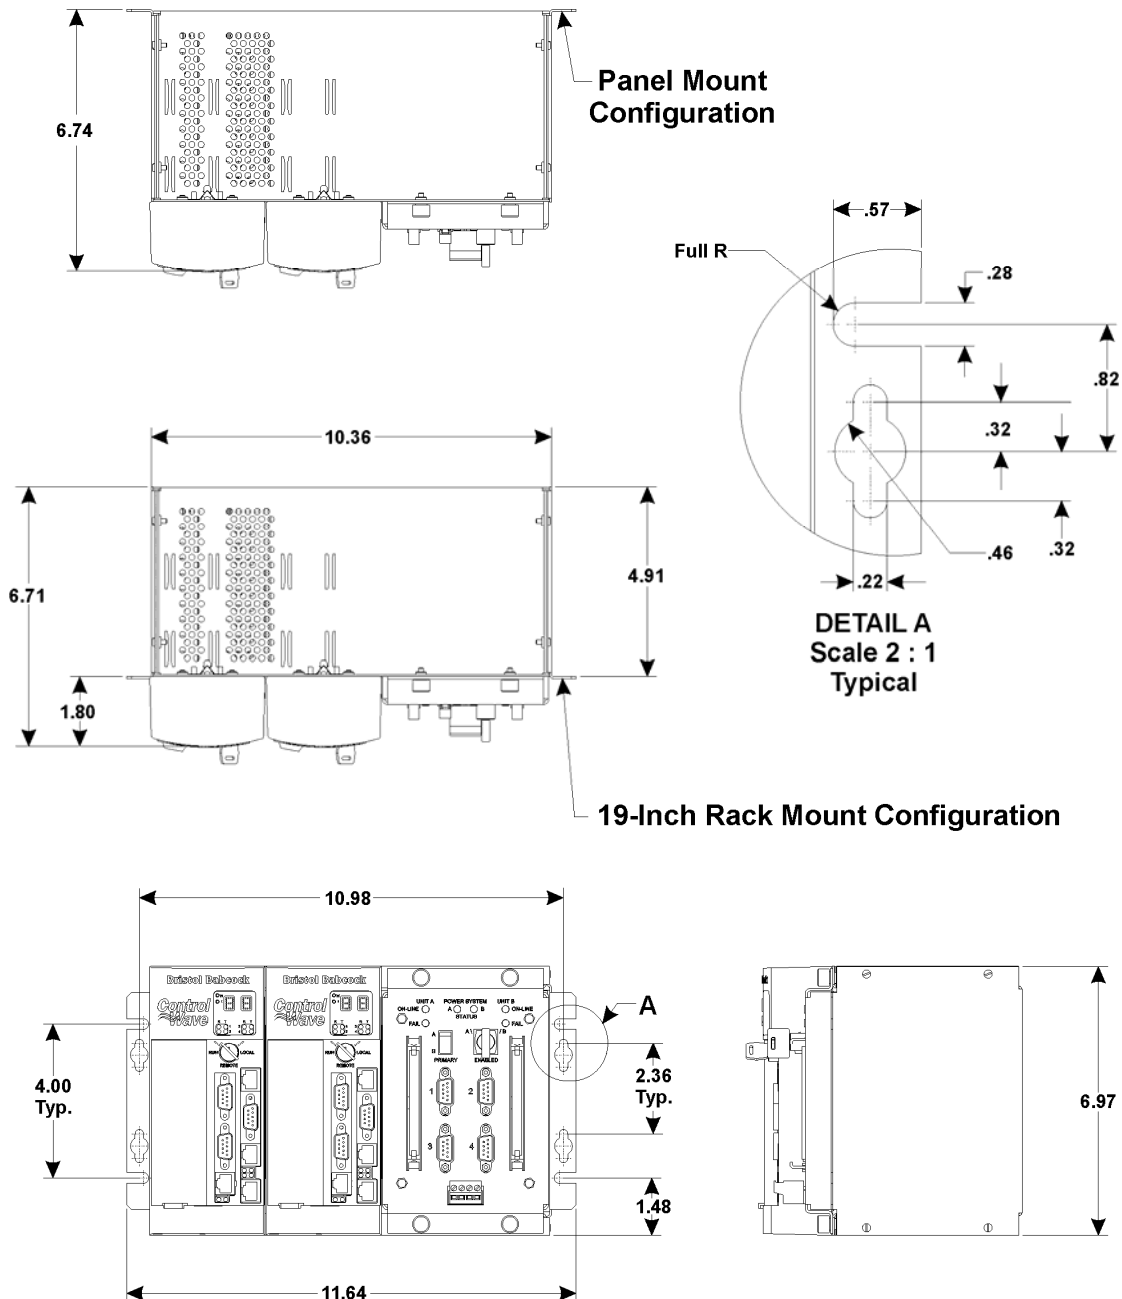

Figure 2-1 - ControlWaveRED - Mounting Diagram
ControlWaveREDs can be mounted to a panel or a wall. Mounting in a 19-inch equipment rack is possible with the use of a BBI supplied Filler Panel. Mounting hole patterns are provided in Figures 2-1 and 2-2. **ControlWaveRED** units are factory shipped with the End Plates configured for rack mounting. A Rack Mount Extension must be added to either side to accommodate 19-inch rack mounting. When mounting one of these units to a panel or wall, it is to be positioned in accordance with the following restrictions:
- The End Plates must be removed, rotated 180° and then reinstalled to accommodate panel or wall mounting. Hole patterns and dimensions are provided in Figure 2-1.